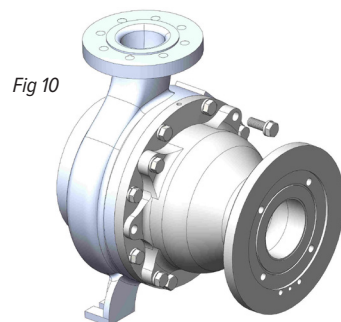

Fig 10
- ⚠ WARNING:** Magnetic force hazard. This pump should only be disassembled and assembled using the recommended procedures. The magnetic attraction is powerful enough to rapidly pull the motor end and the wet end together. ALWAYS use the jackscrews (item 14) to assemble/disassemble the pump. Do not place fingers between the mating surfaces of the motor and wet ends to avoid injuries. Keep the drive magnet and impeller assembly away from metal chips or particles.
1. Stop the pump, lock out the motor starter, close all the valves that are connected to the pump, and drain/decontaminate the pump. The ULTRAChem is supplied with a casing drain to help drain and decontaminate the pump. If the drain flange has been removed to drain/decontaminate the pump, reinstall the flange (item 11) and use a new gasket (item 11A). Torque the two flange bolts (M12) (item 11B) to 35 ft-lbs (47.5 N-m).
4. Using a 24 mm socket, remove the (4) M16 bolts that secure the motoradapter to the clamp ring. See figure 10.